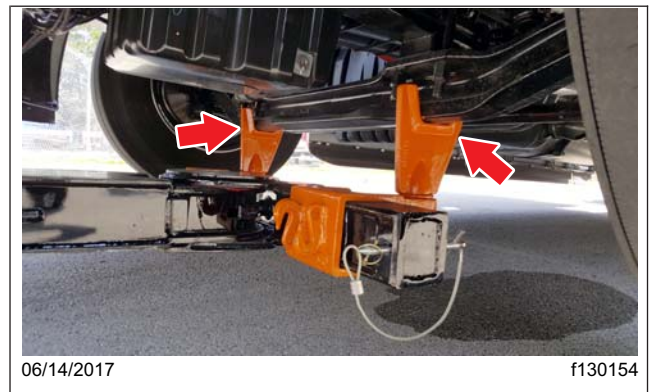

Fig. 21.13, Positioning the Stinger with Lift Adaptors Under the Axle
9. Extend the stinger and place the lift adaptors under the axle. Make certain the lift adaptors are under the front suspension springs between the U-bolts. See Fig. 21.13 and Fig. 21.14.